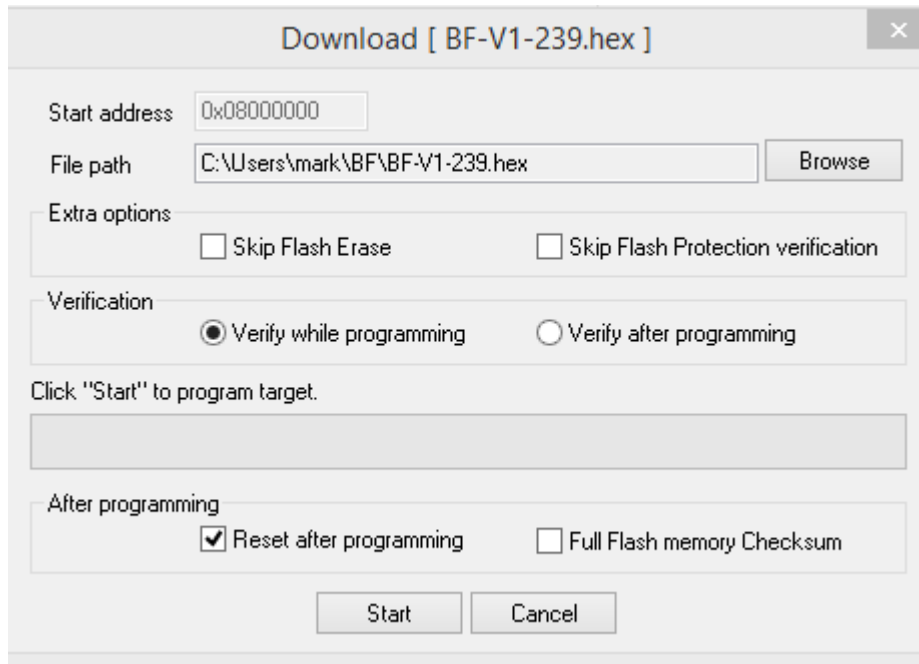

Figure 39: Download window
- After selecting the file, you will see “download” window. See figure 39. Press Start.